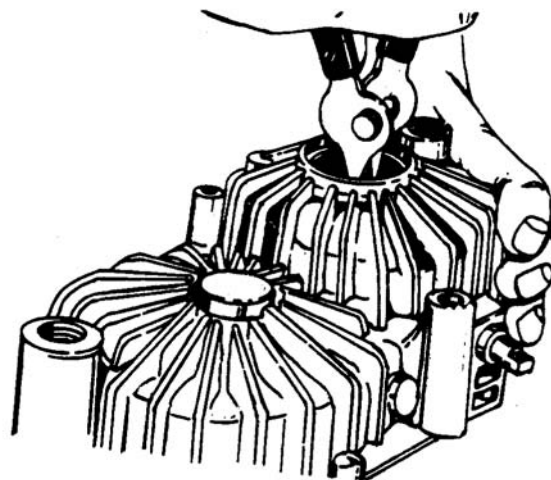

Figure 6-24. Retaining Ring Removal
- a. Remove retaining ring. See Figure 6-24.